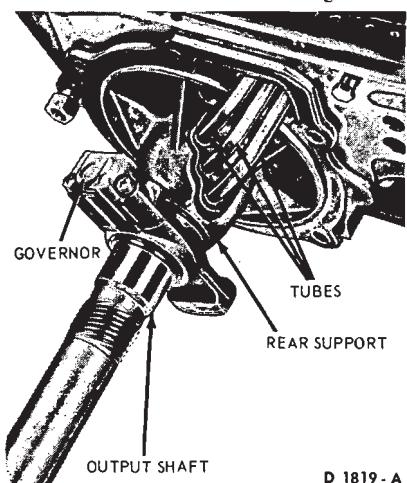

FIG. 24—Rear Support and Output Shaft Installed
3. Remove the output shaft assembly (Fig. 24). To facilitate output shaft removal, insert a screwdriver between the output shaft ring gear and pinion carrier and pry the output shaft rearward. Be careful not to bend the pressure tubes between the rear support or distributor sleeve and case as the tubes are removed from the case.